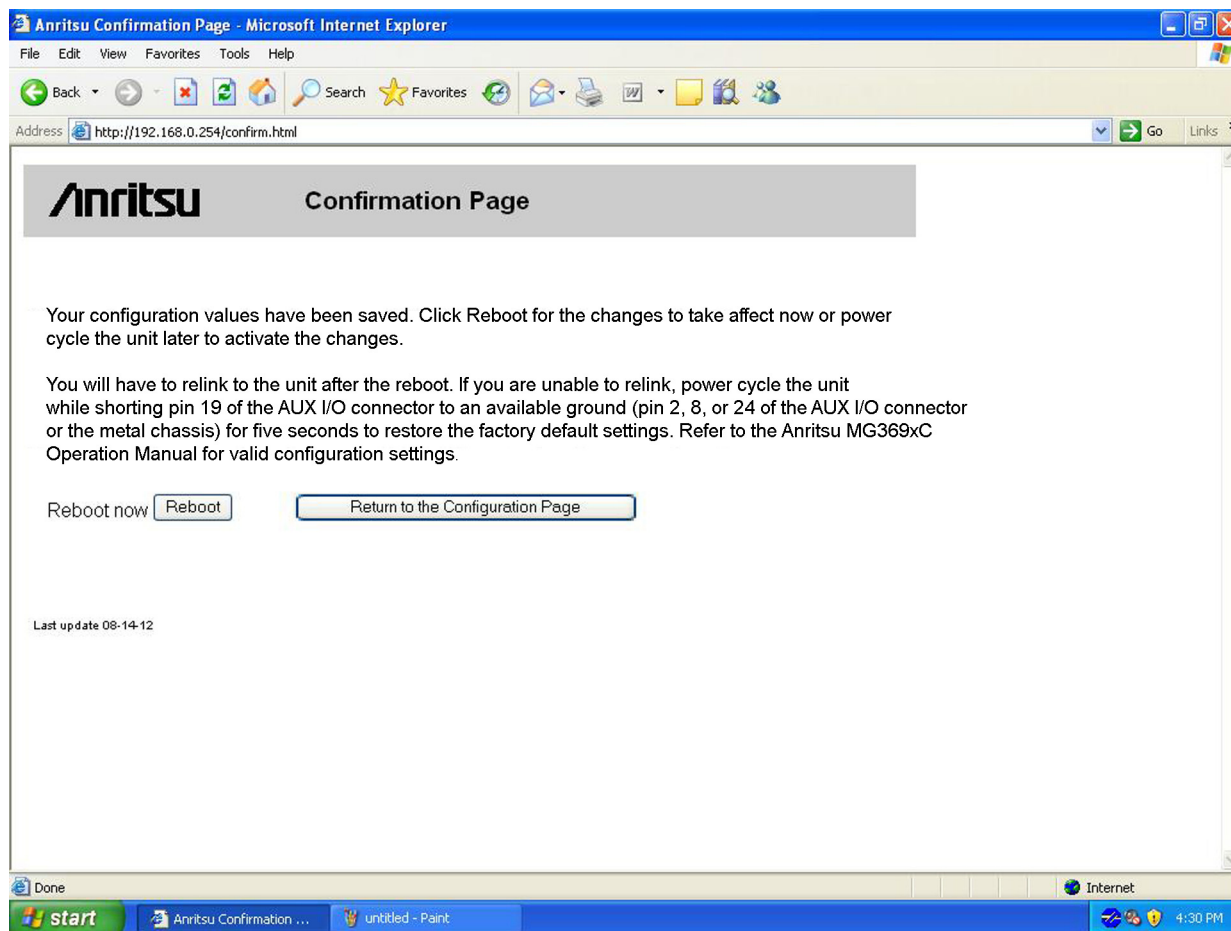

Figure 2-13. Ethernet Configuration Confirmation Page
6. Click the Update Flash button to complete the configuration. The TCP/IP Confirmation Page appears as shown in Figure 2-13 on page 2-17 (refer to “TCP/IP General Requirements and Settings” on page 2-11 for information on the below settings).